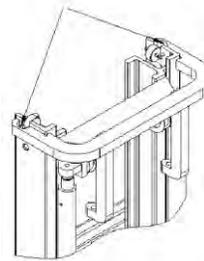

figure 2-75
(1) Hoisting directions for lifting system see figure 2-75